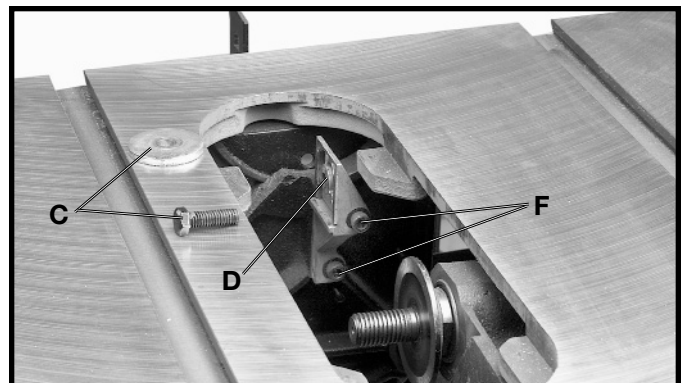

Fig. 32
6. If alignment is necessary, loosen the two screws (F) Fig. 32, align bracket (D) with the arbor flange and tighten screws (F).
7. Loosely assemble large washer and screw (C) Fig. 32, to the inside splitter bracket. This screw and washer was removed in **STEP 3**.